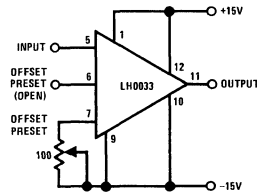

FIGURE 1. Offset Zero Adjust for LH0033 (Pin nos. shown for TO-8)
**Offset Voltage Adjustment:** Both the LH0033's and LH0063's offset voltages have been actively trimmed by laser to meet guaranteed specifications when the offset preset pin is shorted to the offset adjust pin. This pre-calibration allows the devices to be used in most DC or AC applications without individually offset nulling each device. If offset null is desirable, it is simply obtained by leaving the offset preset pin open and connecting a trim pot of 100Ω for the LH0033 or 1 kΩ for the LH0063 between the offset adjust pin and  $V^-$  as illustrated in Figures 1 and 2.